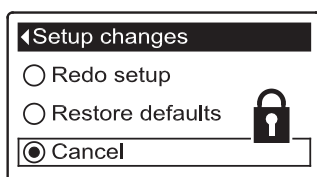

FIG. 24
8. Press the RIGHT (►) button. A flashing padlock icon will appear, as shown in Figure 24.
- 1-7. Go to the **Setup changes** screen (Figure 24) by following Steps 1-7 at left.